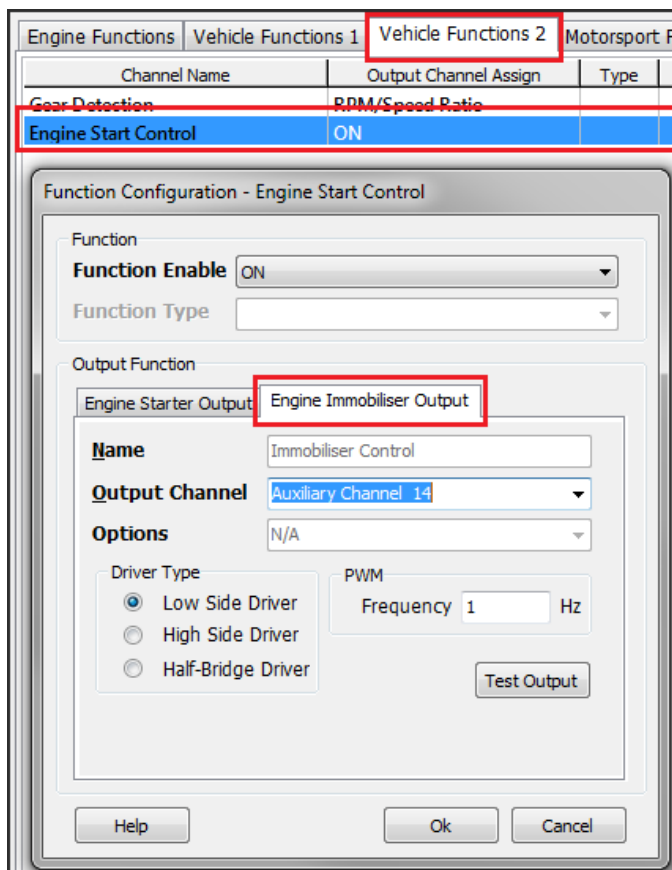

Figure 5.10. Aux 14 setup for Key Start
- Select "Engine Immobiliser Output" tab and make sure the Output Channel to set to Auxiliary14. See Figure 5.10.